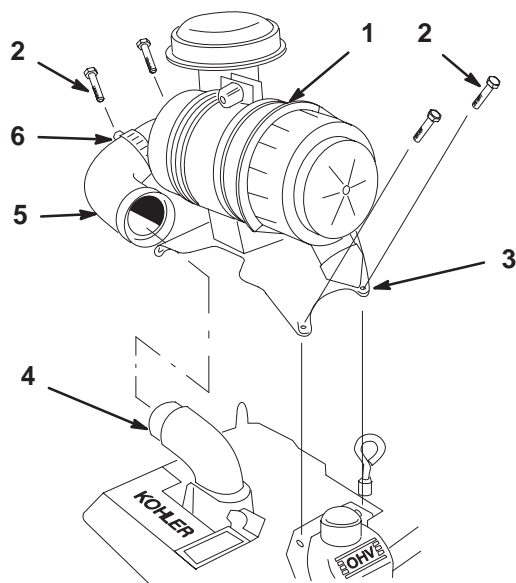

Figure 8
1. Remove air cleaner from crate. Keep air cleaner and bracket together. (Fig. 8).
2. Remove the top two valve cover mounting screws from both valve covers (Fig. 8).
3. Place air cleaner onto engine and align holes in air cleaner bracket with holes in valve covers (Fig. 8).
4. Install valve cover screws into air cleaner bracket and valve covers (Fig. 8).
5. Remove plastic plugs from air intake elbow on engine and air cleaner hose (Fig. 8).
6. Install hose to air intake elbow on engine and air cleaner. Tighten hose clamps to secure the hose connections (Fig. 8).